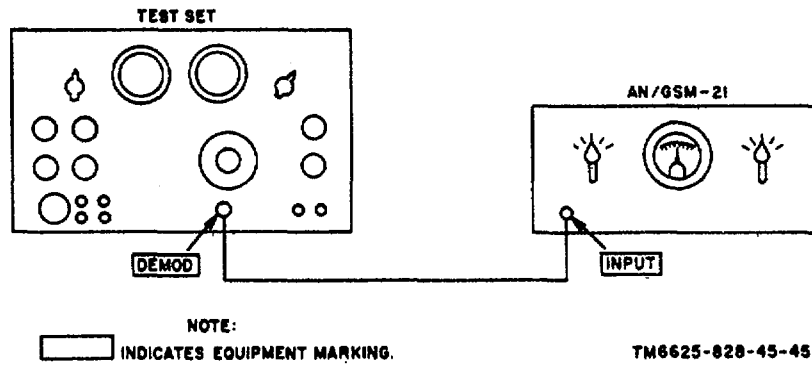

Figure 4-6. 30~ phase angle test setup.
b. Test Connections and Conditions. Connect the equipment as shown in figure 4-6.